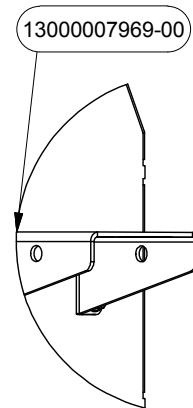

Figure 8
2. Attach Winch Bottom Mount Bracket (13000007969-00) to the boot using 4 bolts (13071206016) and 4 nuts (13073100006) as shown in Figure 8